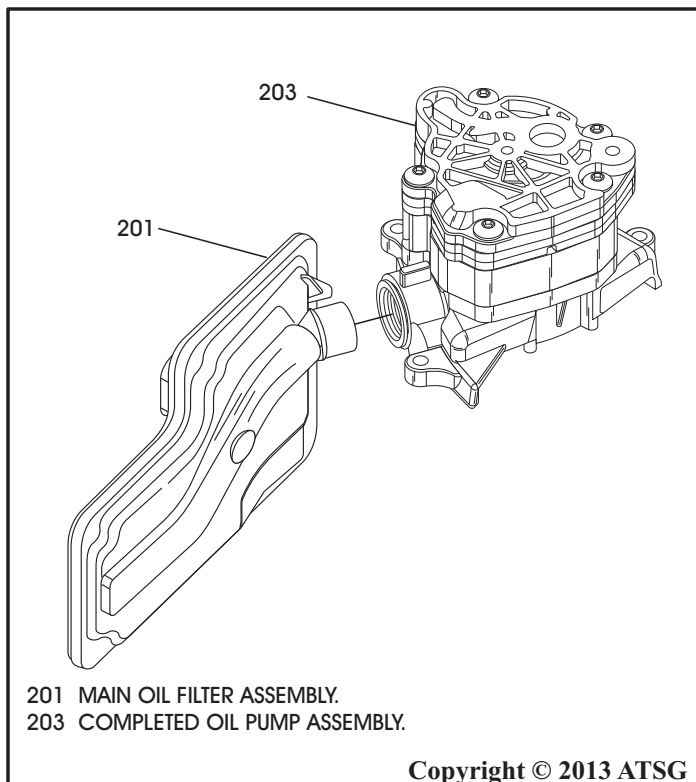

Figure 120
14. Install a new main oil filter into the oil pump, as shown in Figure 120.